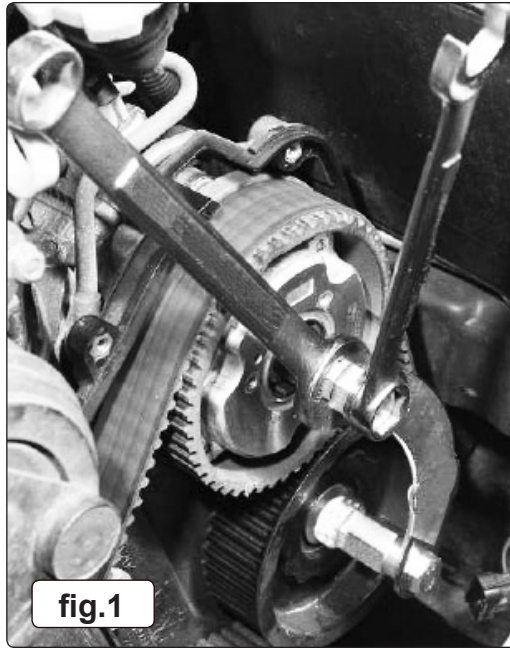

fig.1
- 4.4. With the locking bolts loosened slightly, fit the camshaft locking tool so the hexagon fits over the camshaft sprocket fixing bolts. The tool should be parallel to the camshaft pulleys.(fig.1). Note: depending upon the camshaft pulley type the spacer provided may, or may not be required.